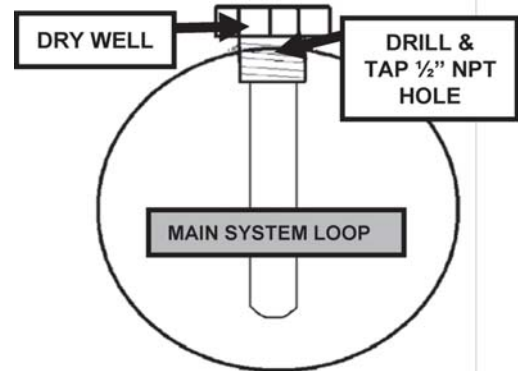

Fig. 9
3. Drill a 23/32" diameter hole (1/2" NPT) into the pipe as shown in Fig. 9.